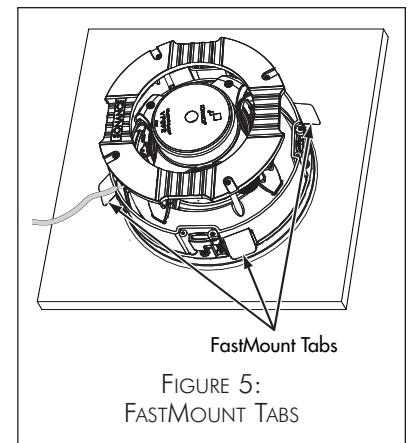

FIGURE 5:
- The FastMount tabs will prevent the speaker from falling out of the mounting hole, allowing you to let go of the speaker to pick-up tools or other items (*Figure 5*).